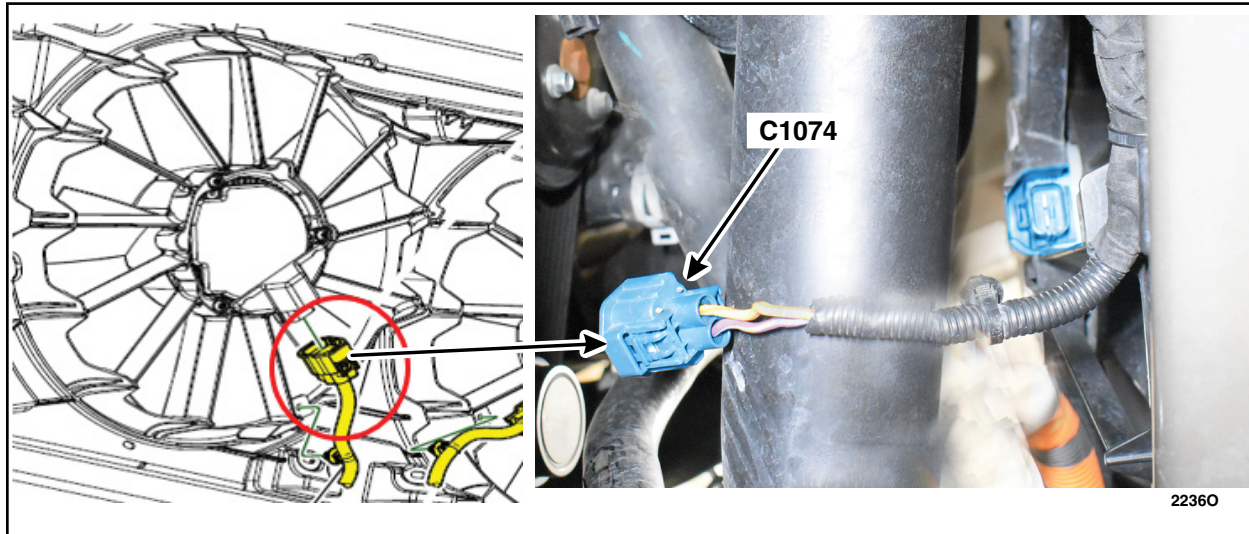

FIGURE 21
26. Disconnect connector C1074 from cooling fan. See Figure 21.